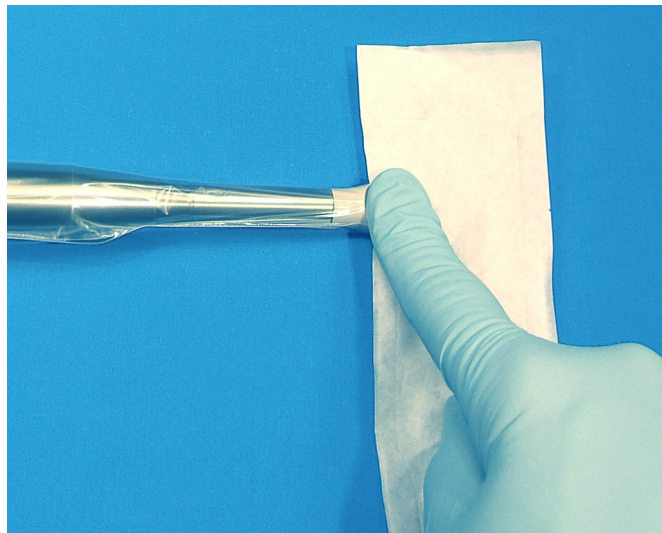

Figure 9
7. Using the opaque layer, press the clear plastic against the LED array for about three seconds (Figure 9). (If oils from your finger get on the plastic, they can blur the image.)